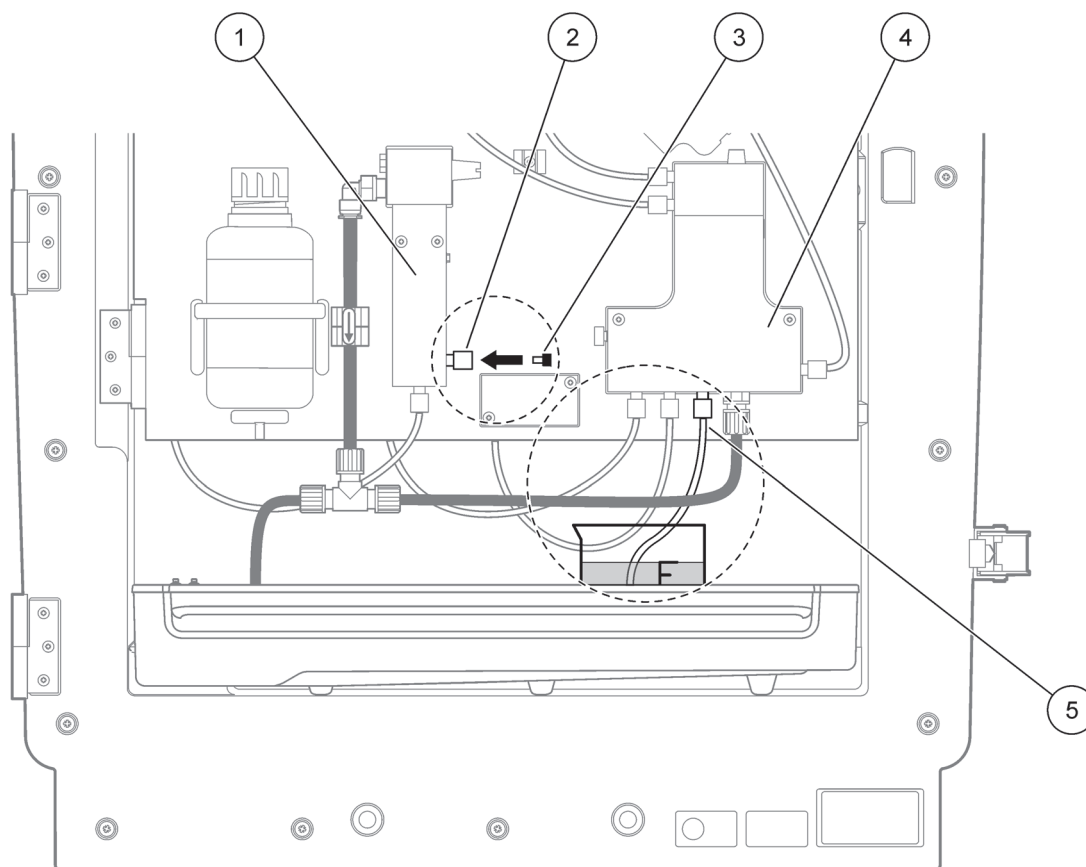

Figure 2 Modification of AMTAX sc
7. Select ENTER to modify the analyzer (Figure 2 on page 21):
- a. Unscrew the fitting (item 2) of the sample tube (item 5) which connects the overflow vessel (item 1) and the valve block (item 4) at the overflow vessel.
- b. Screw in the blind plug (item 3) in the thread of the overflow vessel (item 1) and insert the sample tube in a beaker (for example 150 mL) with standard solution for the validation.